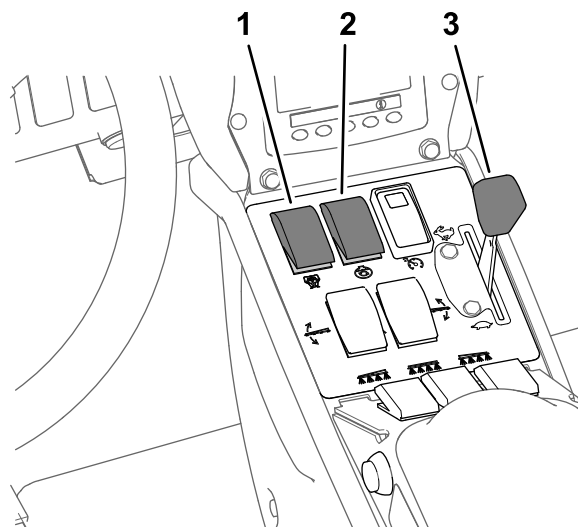

Figure 31
8. Set the agitation switch and the spray-pump switch to the ON position (Figure 31).
9. Set the throttle to the FAST position (Figure 31).
Note: This procedure assumes that the spray pump is on; refer to Figure 31 in Spraying in the Application Rate Mode \(page 32\).
4. Adjust the throttle to the desired engine speed to spray; refer to Figure 31 in Spraying in the Application Rate Mode \(page 32\).